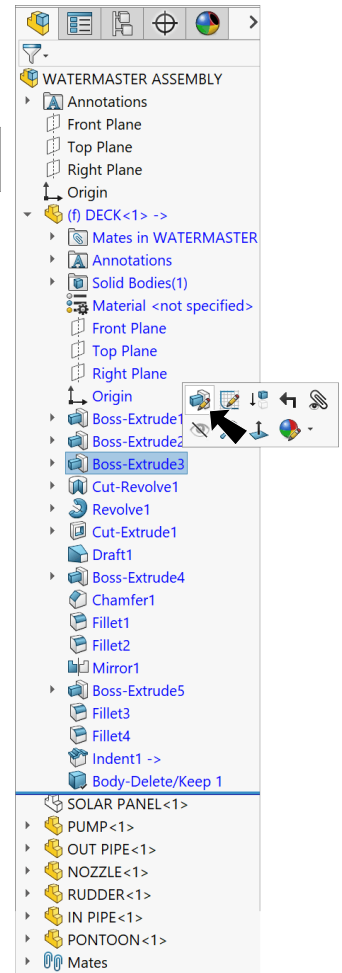

Fig. 51
Step 2. Expand **Deck** in the Feature Manager, click **Boss-Extrude3** in the Feature Manager and click **Edit Feature**  in the content toolbar, **Fig. 51**.